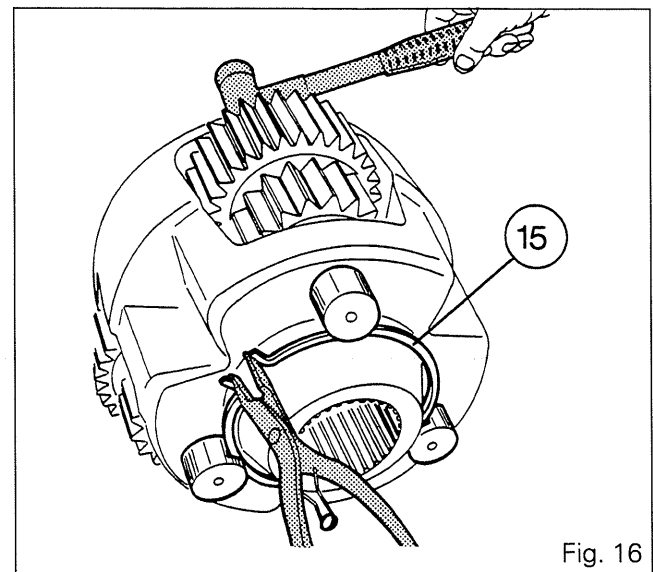

Fig. 16
7. Open out the circlip (15) (Fig. 16).
8. Using a hammer, tap lightly on the three pins (16).
9. Extract the three pins and the circlip (Fig. 16).
10. Remove the three planetary gears (18), the needles (20), the spacers (19), the washers (36) and the shims [17].